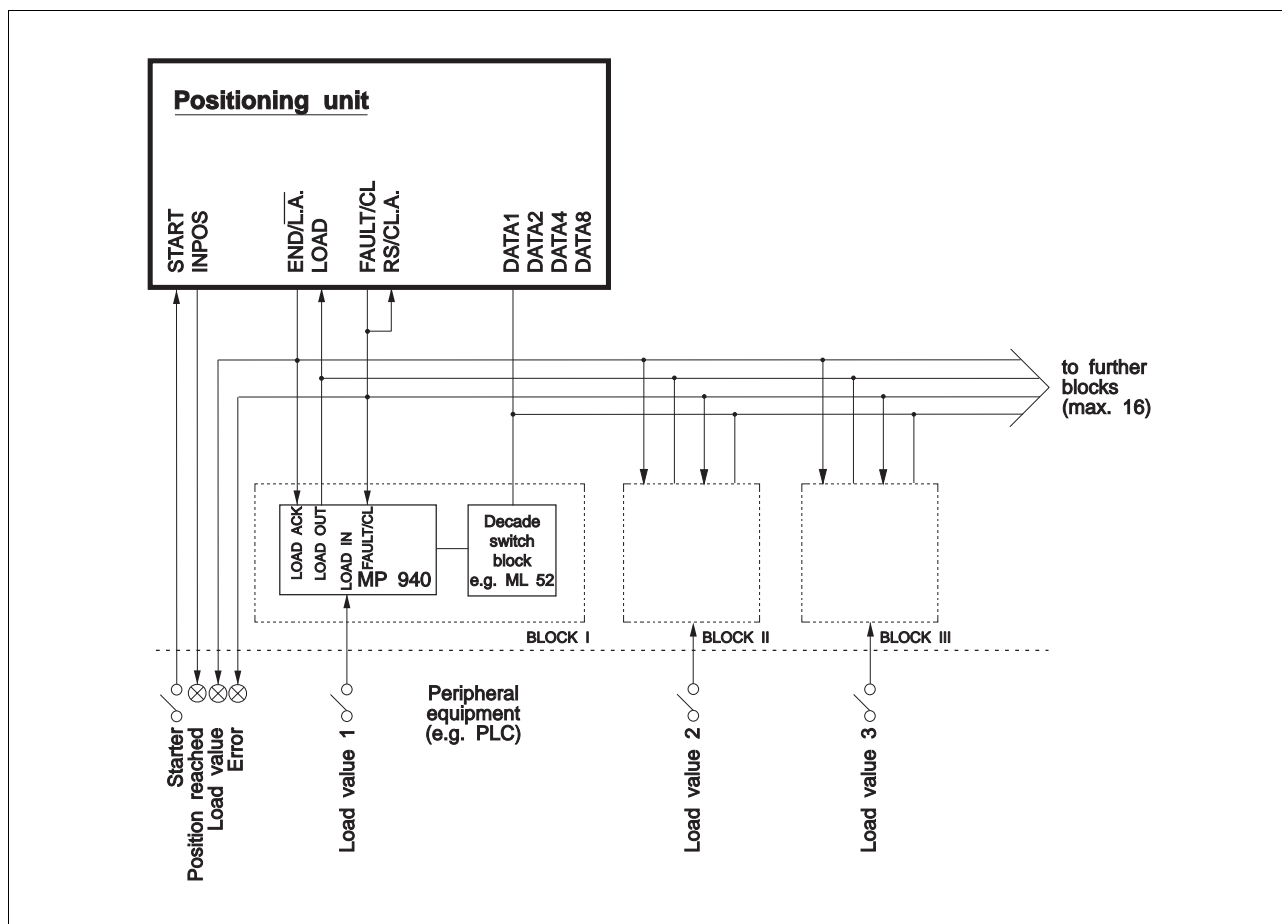

Fig. 6-6 System integration of MP 940 decade switch interface
The MP 940 decade switch interface (fig. 6-6) is integrated in a system with a BERGER LAHR positioning unit.
1. Switch off supply voltage and connect decade switch interface to the positioning unit and peripheral equipment (e.g. PLC) as shown in fig. 6-6.